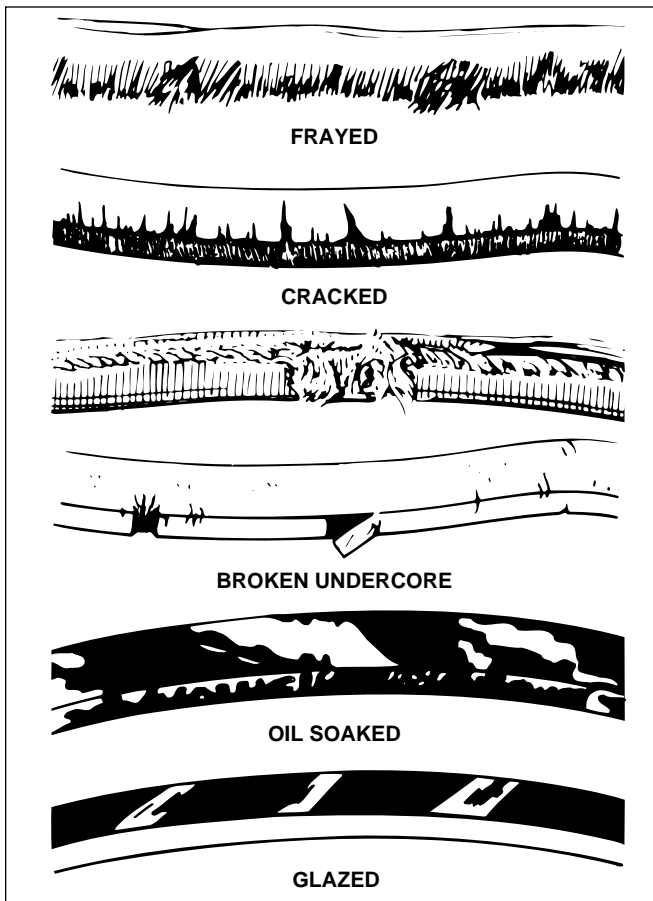

Fig. 1-1. Inspect drive belts for wear and damage.
- Check all drive belts to make sure none are cracked, frayed, loose, or slipping, figure 1-1